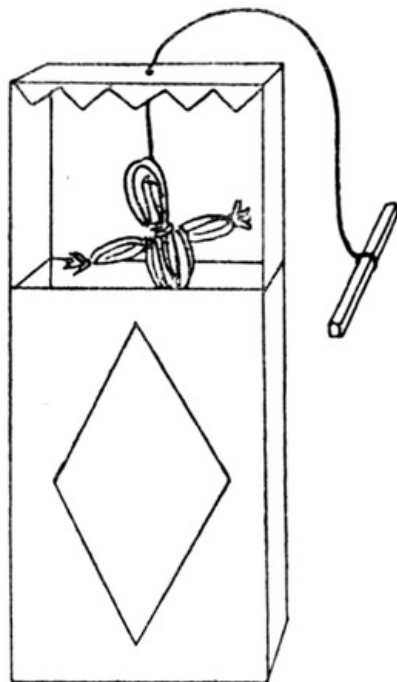

FIG. 85
**A Jack-in-the-box.** These toys are so simple that the diagrams almost explain themselves. In the case of the Jack-in-the-box the children like to decorate the half-opened match-box with coloured paper. The little figure is made of bits of wool, a piece of cotton is tied round the neck and put through a hole in the top, a match is tied to the cotton to prevent it slipping back; another piece of cotton tied to the waist of the doll pulls it down (Fig. 85).